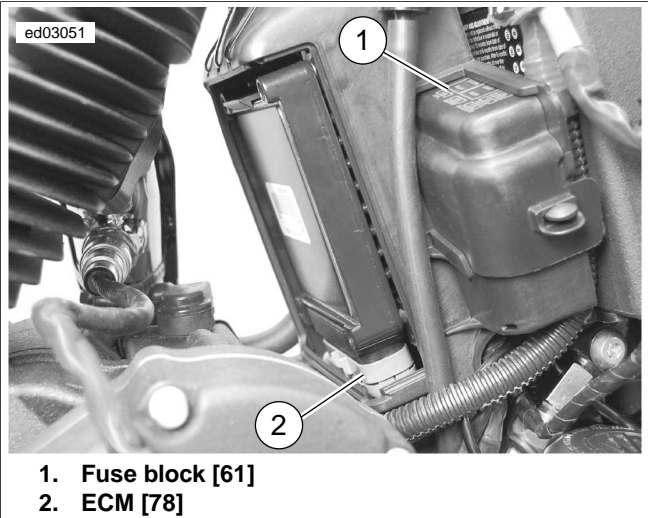
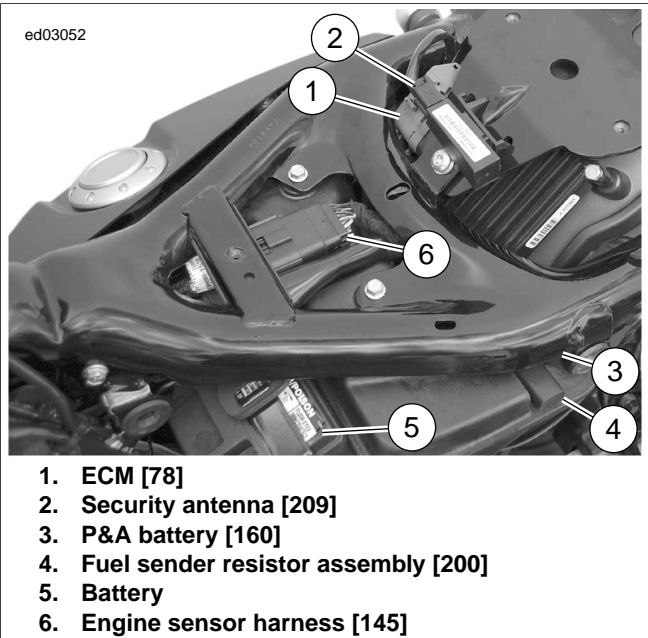

Figure 2-6. ECM: XL
Figure 2-7. ECM: XR
See Figure 2-6 and Figure 2-7. The ECM is located behind the rear cylinder (XL) and under the seat (XR). The ECM monitors the sensors from the engine and fuel systems in order to manage the fuel and spark delivery to the motorcycle which enhances performance and driveability.